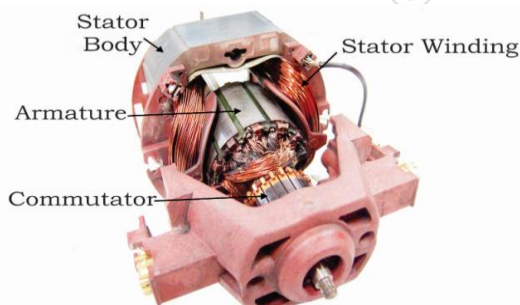

Fig. 3.47 Parts of universal motor
A. **Universal motor** – It is a series-wound motor. In these motors, the stator's field coils are connected in series with the rotor windings through a commutator. Universal motors are used in mixers, grinders, juicers, hand drill machines, and many more. Figure 3.47 illustrates the various parts of a universal motor.